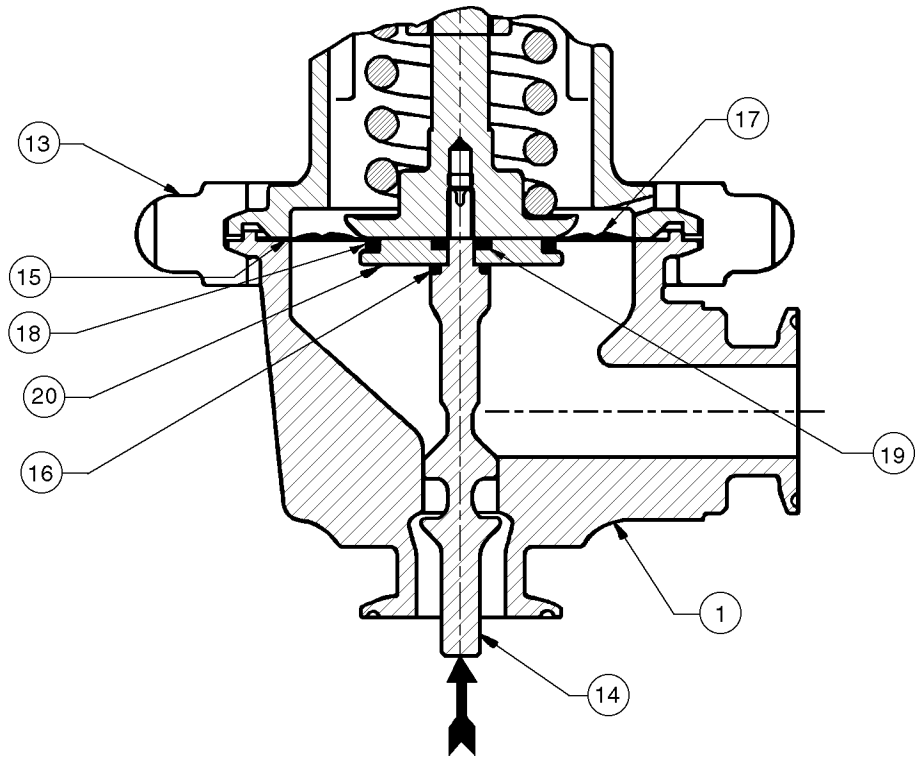

Figure 3: Option-11, Diaphragm Restraint (Forged Body Shown)
9. Inspect plug (14) and seating surface of body (1) for excessive wear. Replace all worn parts.
10. Clean gasket (15) and O-ring (16) retaining surfaces.
11. Remove body (1) from vise and thoroughly clean along with replacement wetted parts (14, 15, 16, 17, 18, 19, 20) in accordance with Owner's cleaning procedures. Reposition body (1) back into vise.
12. Place new diaphragm gasket (15) on body (1) flange.
13. Insert threaded end of plug (14) through the bottom connection of body (1) and install O-ring (16). **NOTE: For Opt.-11, reposition pusher plate (20) on threaded end of plug (14) and install O-ring (18) and seal (19). Refer to Figure 3.**
14. Place diaphragm (17) over threaded end of plug (14). **NOTE: The word 'TOP' is etched on one side of the diaphragm and should be visible when looking down on the diaphragm.**
15. Reassemble pressure plate (3) to plug (14). Using tools per 7. above, grasp the parts and rotate pressure plate (3) CW until wrench tight (metal-to-metal contact). Torque not to exceed 100 in. lbs. for 3/4", 1" and 1-1/2" sizes or 270 in. lbs. for 2" and 3" sizes.
16. Center/align this assembly on the diaphragm (17) flange surface in the body (1).
17. Position spring (7) on to hub of pressure plate (3). Place adjusting screw (5) assembly – with spring button (4) – over post end of the pressure plate (3) and into spring (7) cavity. **NOTE:** Apply a small amount of Emhart Bastic White Food Grade “Never-Seez” or equivalent to threads of adjusting screw (5) and the shoulder of the adjusting screw (5) where they make contact with the spring chamber (2). Do Not rotate adjusting screw (5) or spring button (4).
18. Align slot guides inside spring chamber (2) with spring button (4) “ears” and position on to body (1). Align with match marks.
19. Place T-handle (6) on post end of adjusting screw (5) and insert hitch pin (21) into hole through post end of adjusting screw (5).
20. Reposition clamps (13A) around body (1) and spring chamber (2) flanges. Insert clamp bolts (13C), washers (13D) and tighten clamp nuts